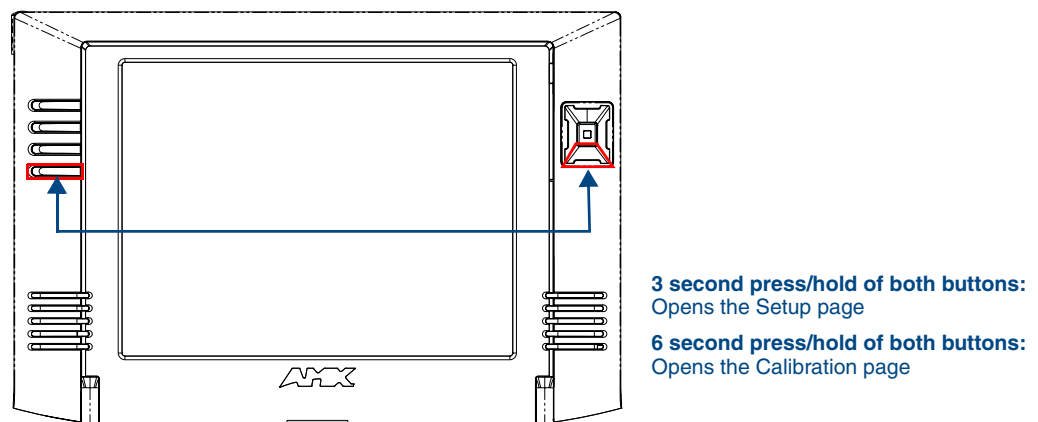
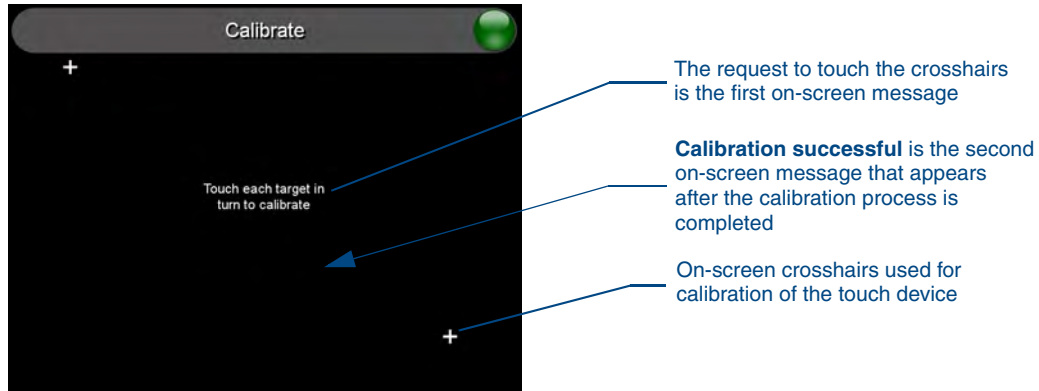

FIG. 76 Location of Setup Access buttons
FIG. 77 Touch Panel Calibration Screens
1. Press and hold the two lower external pushbuttons on both sides of the MVP (FIG. 76) for **6 seconds** to pass-over the Setup page and access the Calibration setup page (FIG. 77).
2. Using the included stylus, press the crosshairs (on the Calibration page) to set the calibration points on the LCD (FIG. 77).